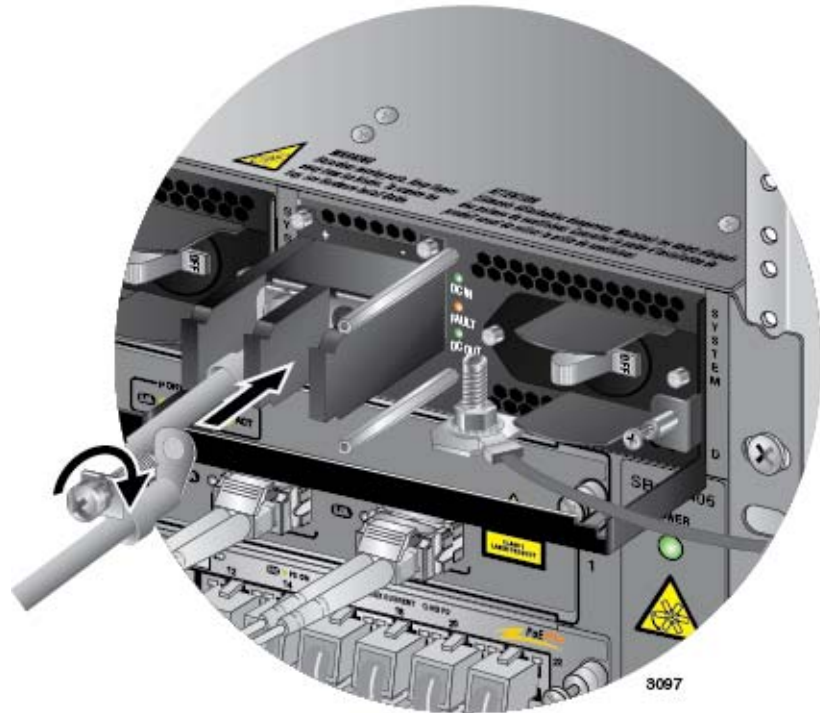

Figure 149. Connecting the Negative (-) Power Wire with a Right Angle Terminal
7. With a #3 Phillips-head screwdriver, connect the negative (-) power lead wire to the negative terminal on the power supply, with the remaining terminal screw removed in step 5. The negative terminal is on the right. Refer to Figure 149 on page 207.